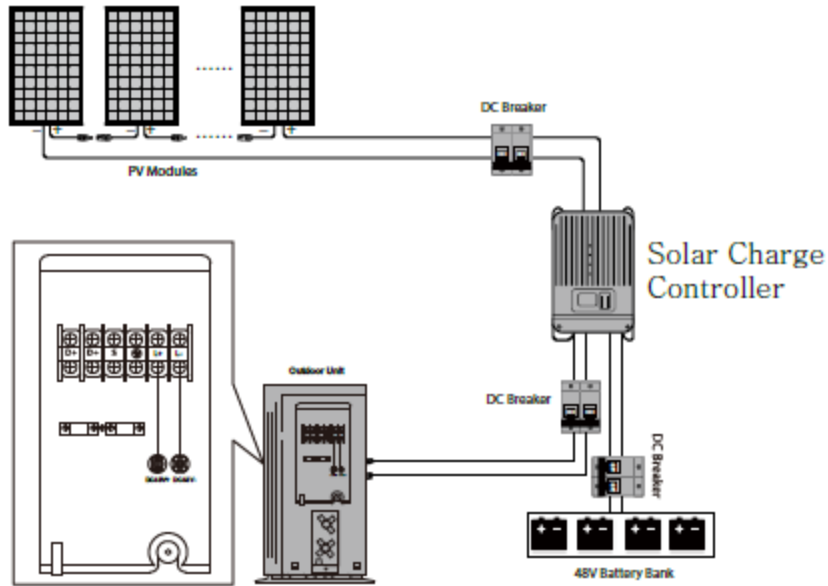

Fig. 9.25
- * Installation as Fig. 9.25
- * The MC-4 Connectors should be assembled to the PV-wires on both side, and please follow Fig. 9.25 to make the MC4 connector.